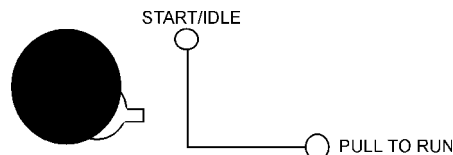

Figure 42. Engine Throttle Lever (high)
9. Pull the engine throttle and turn to the right until the metal stop rests against the control panel (Figure 42).